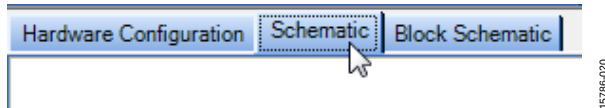

Figure 20. **Schematic** Tab
1. Click the **Schematic** tab near the top of the window (see Figure 20).